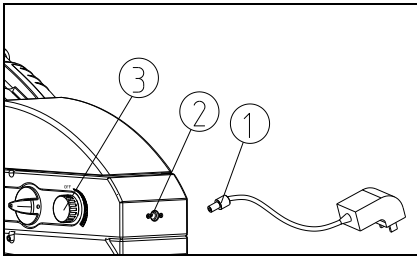

Fig 36
a) Transformer power supply. First insert one end of transformer ① into LED fluorescent illuminator power socket ②. Then insert the other end directly into electric outlet. (See Fig.36)
★ Before connecting an external transformer, should rotate the light adjustment knob ③ to “OFF”. (See Fig.36)
(1) First insert one end of the power cable ④ into LED fluorescence illuminator power socket ②. Then insert the other end into the battery pack output port ⑤ (can be connected to any output port). (See Fig.36、37)
★ Before connecting the power cable, should push the switch of battery pack to “O” (OFF) and should rotate the light adjustment knob ③ to “OFF”. (See Fig.36、37、38)
(3) Charge the battery pack when it is low power. Connect the power cord ⑦ with the outlet and the interface ⑥ on the pack.